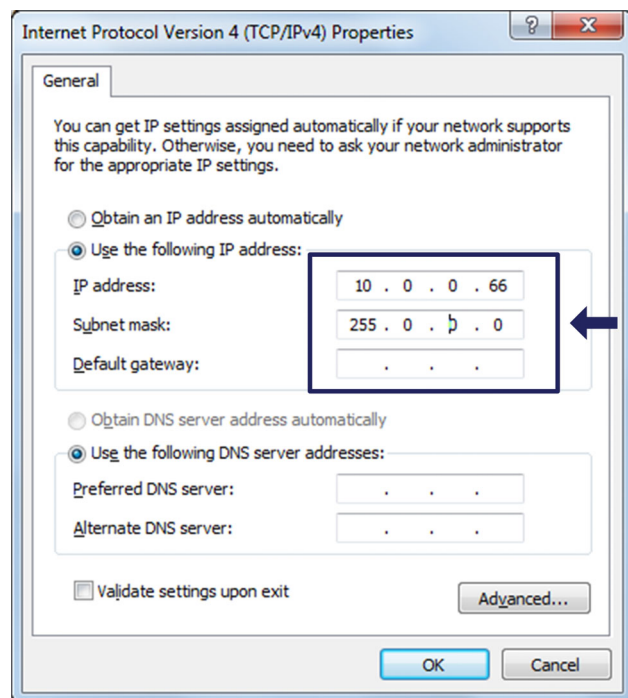

Fig. 3.9 IP and Subnet
- Set the **IP address** and the **Subnet mask** (Fig. 3.9).